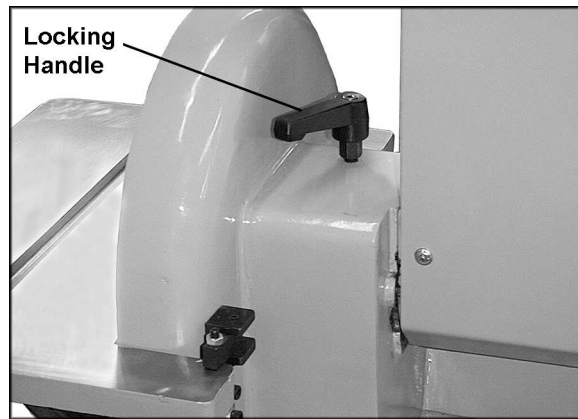

Figure 16
1. Loosen the *locking handle* shown in Figure 16.
4. Re-tighten locking handle (Figure 16).